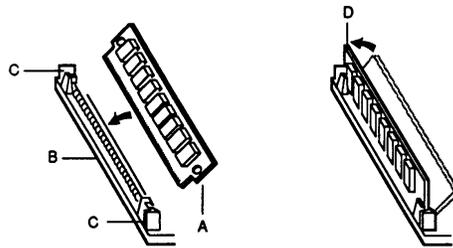

Figure A-9. Inserting the SIMMs into Sockets
4. Refer to Figure A-9. Holding the SIMM only by the edges (A), align the SIMM with its socket (B). The contact edge should be inserted into the socket first. The chips should be on the left side of the SIMM. Press down firmly while maintaining the angle of insertion.